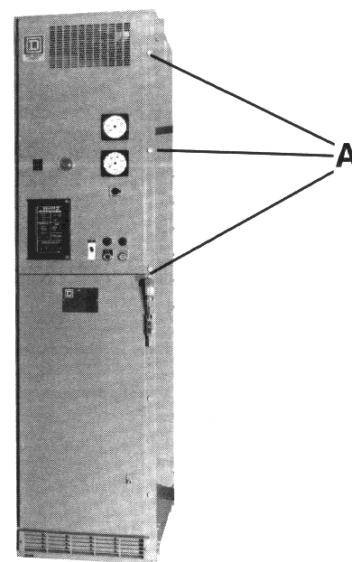
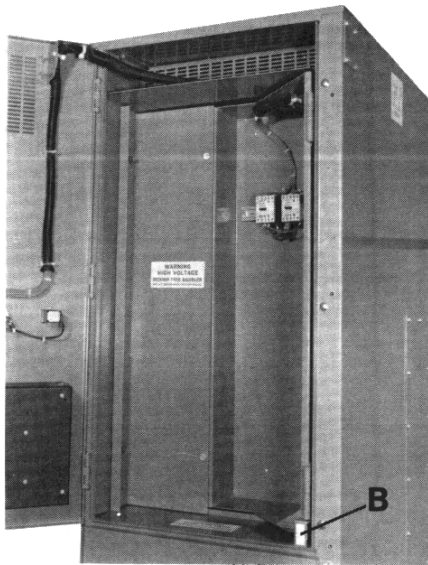

FIGURE 10
FIGURE 11
Open low voltage compartment door by turning thumb screws (A) counter-clockwise (See Figure 10). Swing door to left and out of the way for access to devices and terminal blocks. If access to the low voltage compartment is attempted while the controller is energized, it will automatically de-energize because door interlock (B) opens (See Figure 11). Qualified personnel may bypass the door interlock by using the following procedure:
1. Low voltage compartment door interlock (B) de-energizes controller when low voltage door is opened. (See Figure 11).